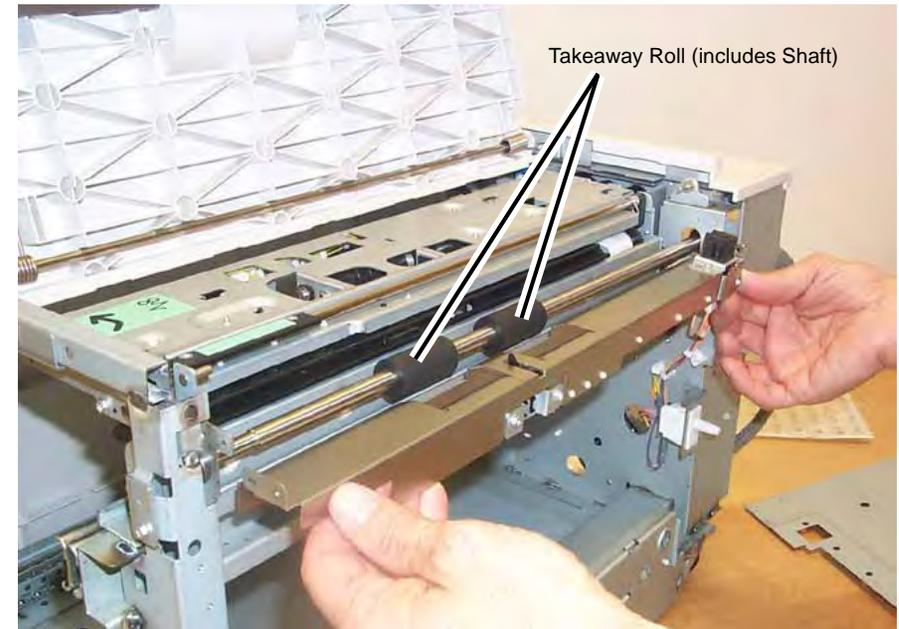

Figure 1 Removing the Lower Chute
3. Remove the Lower Chute (Figure 1).
- Remove the (2) securing screws.